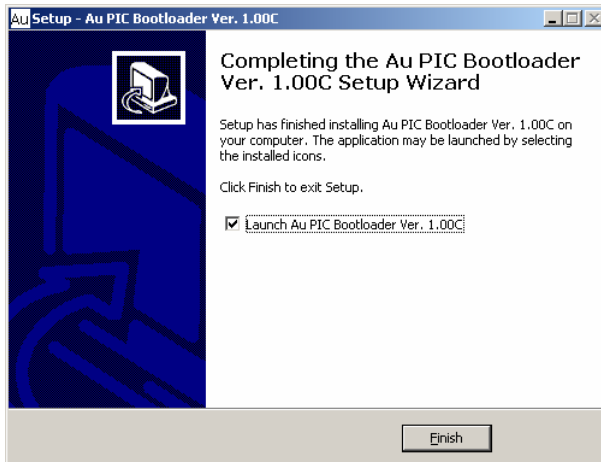

Figure C-8
8. After a few seconds, "Completing the Au PIC Boot-loader Setup Wizard" window shows up. Check "launch Au Boot-loader", and click "Finish" to exit setup (FigureC-8).